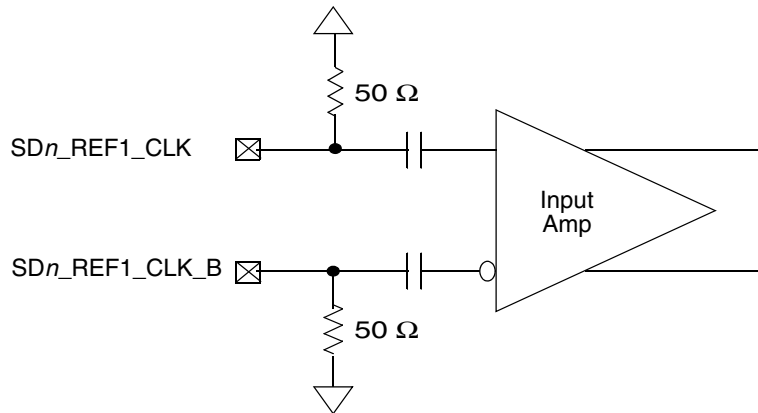

Figure 33. Receiver of SerDes reference clocks
- The SDn_REF1_CLK and $SDn_REF1_CLK_B$ are internally AC-coupled differential inputs as shown in Figure 33. Each differential clock input (SDn_REF1_CLK or $SDn_REF1_CLK_B$) has on-chip 50- Ω termination to SGND followed by on-chip AC-coupling.